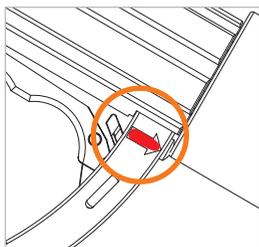

Figure 24
- ▶ Pull the locking lever (Pos. 6) back in the direction of the arrow (Figure 24) to release the locking mechanism and to move the actuation lever (Pos. 7) to the OFF position.